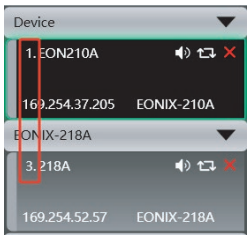

Figure 1.4.1
② The device model and LINK ID cannot be modified. The LINK ID serves as the corresponding identifier when multiple devices are connected to the host computer, as shown in Figure 1.4.1.
③ The preset name displays the name of the currently used preset.